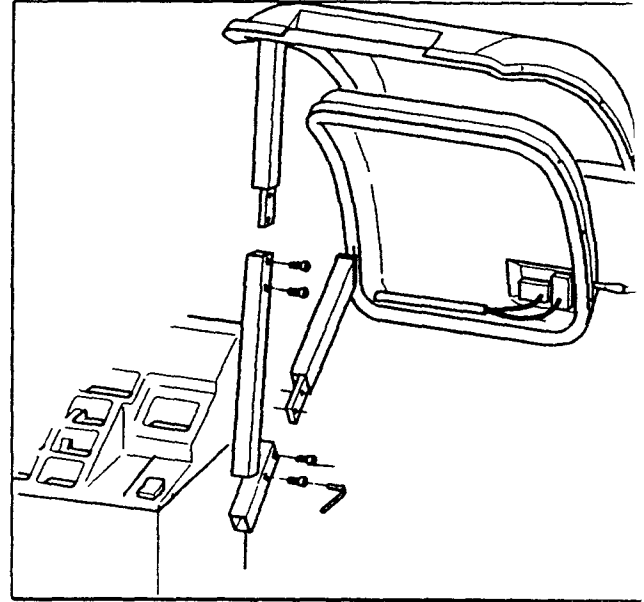

Fig.16
C. Install the wheel guard (Fig.16).